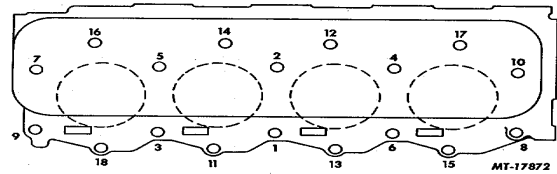

Fig. 125 Cylinder Head Bolt Tightening Sequence
- c. Following sequence shown in Fig. 125, tighten cylinder head bolts evenly to specified torque (see TORQUE CHART).